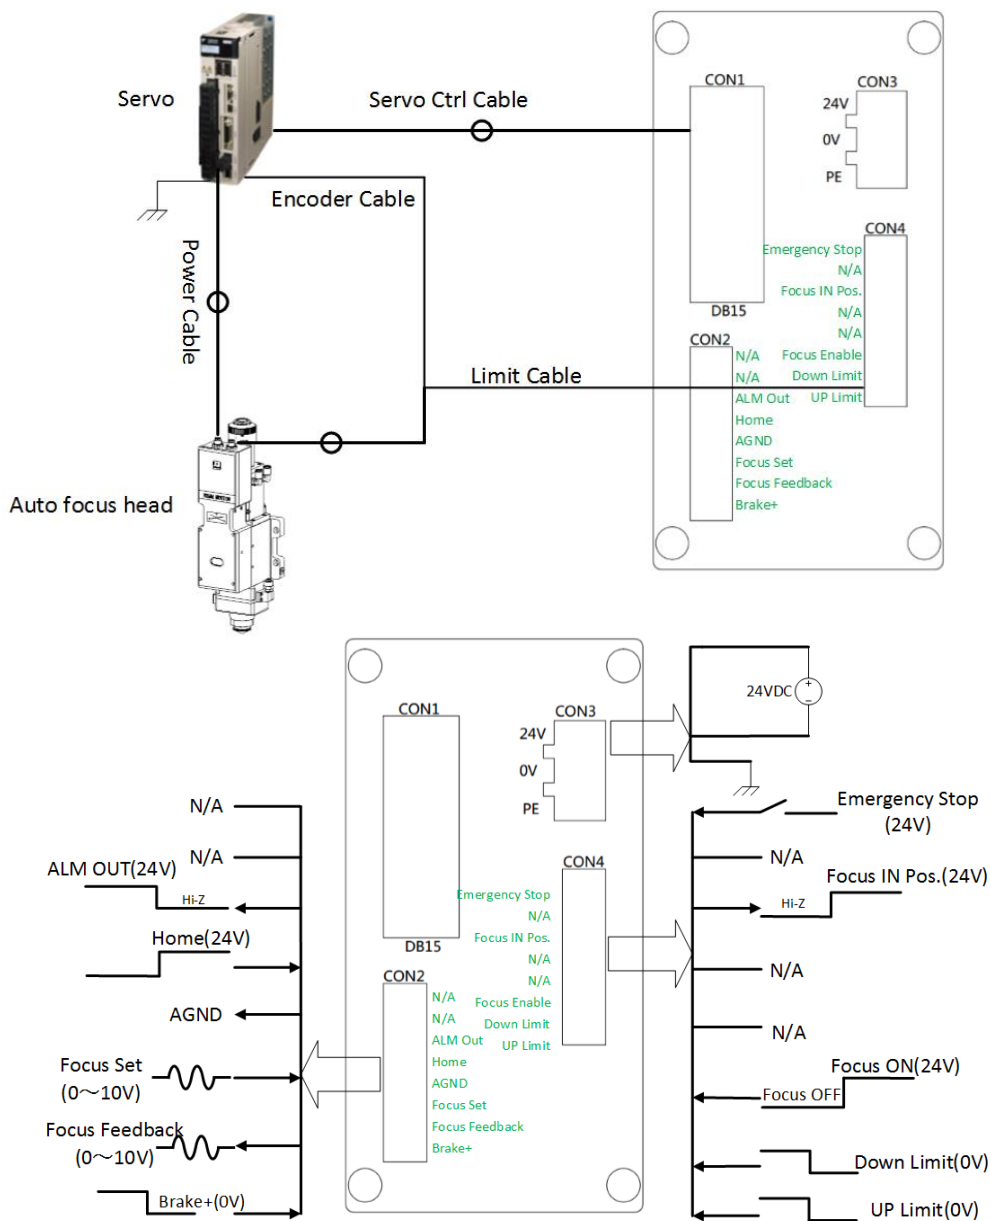

Figure 4.1—ETC_F100 Wiring instruction
The motor is an ac servo motor, which is connected with 220V AC L and N at the driver terminals L1, L2, L1C and L2C. Details of connection method as shown in figure 4.1
2. Limit Signal: As shown in figure 4.1